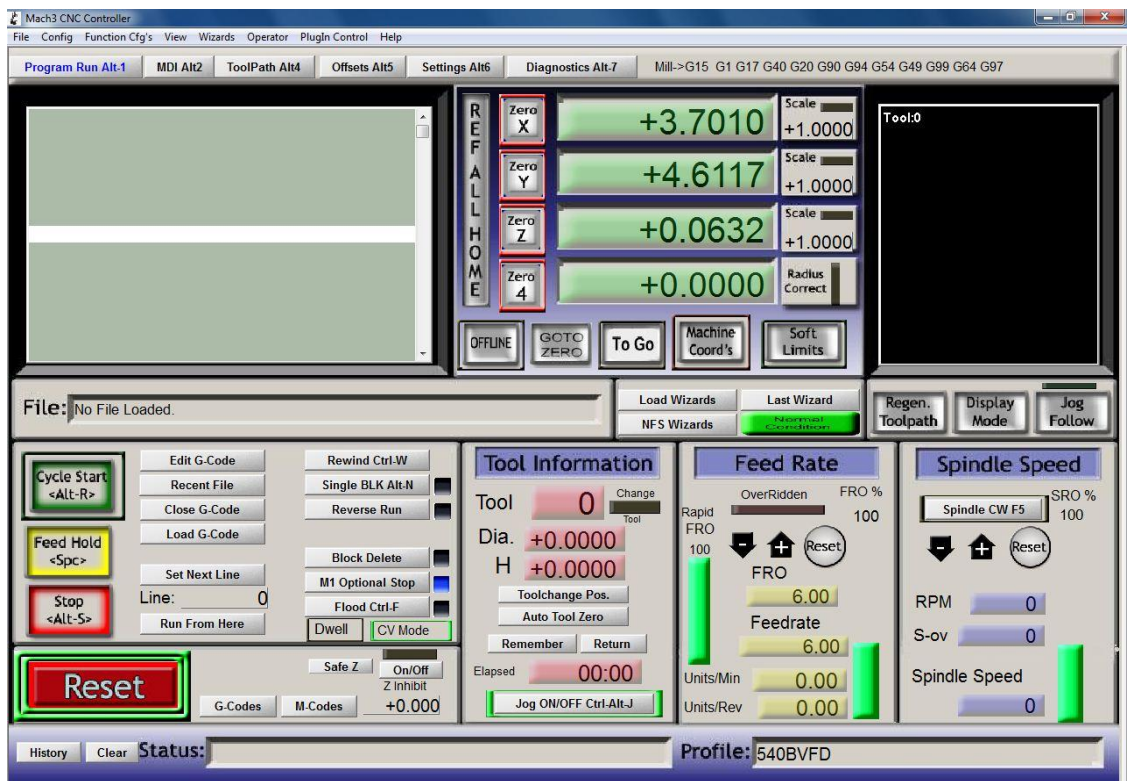

Figure 8: Main Screen, Motor Power ON.
- Adjust cutting and movement speeds to minimize chatter and/or prevent bit damage. The cutting speed can be adjusted during operation by increasing or decreasing the speed in the “Feed Rate” section of the Mach3 menu. See figure 8.